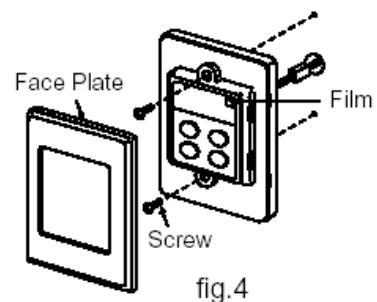

fig.4
6. Fix the controller to the wall and fasten with the phillips head screws supplied as shown in (fig. 4.)
7. Remove the protective plastic film from the controller face as shown in fig. 4.